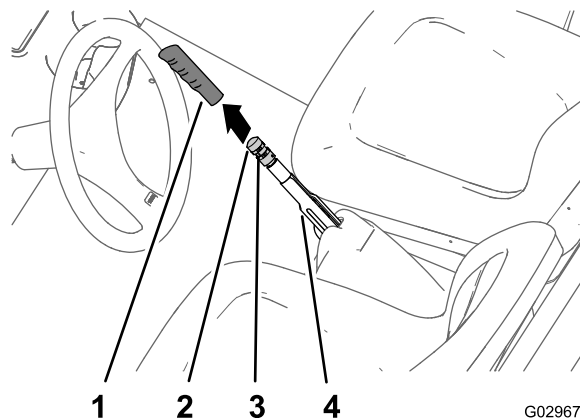

Figure 65
1. Remove the handgrip from the parking-brake lever (Figure 65).
2. Loosen the set screw securing the brake-adjustment knob to the parking-brake lever (Figure 65).
3. Rotate the brake-adjustment knob until you reach a force of 133 to 156 N (30 to 35 lbf) to engage the parking-brake lever (Figure 65).
4. Tighten the set screw and install the hand grip (Figure 65).
2. Loosen the set screw (Figure 65) securing the brake-adjustment knob to the parking-brake lever, disengage the parking brake, and loosen the brake-adjustment knob.
- C. Rotate the brake-adjustment knob (Figure 65) until a force of 133 to 156 N (30 to 35 lbf) is required to engage the parking-brake lever.
- Tighten the set screw and install the handgrip (Figure 65).
5. Rotate the brake-adjustment knob (Figure 65) until a force of 133 to 156 N (30 to 35 lbf) is required to engage the parking-brake lever.